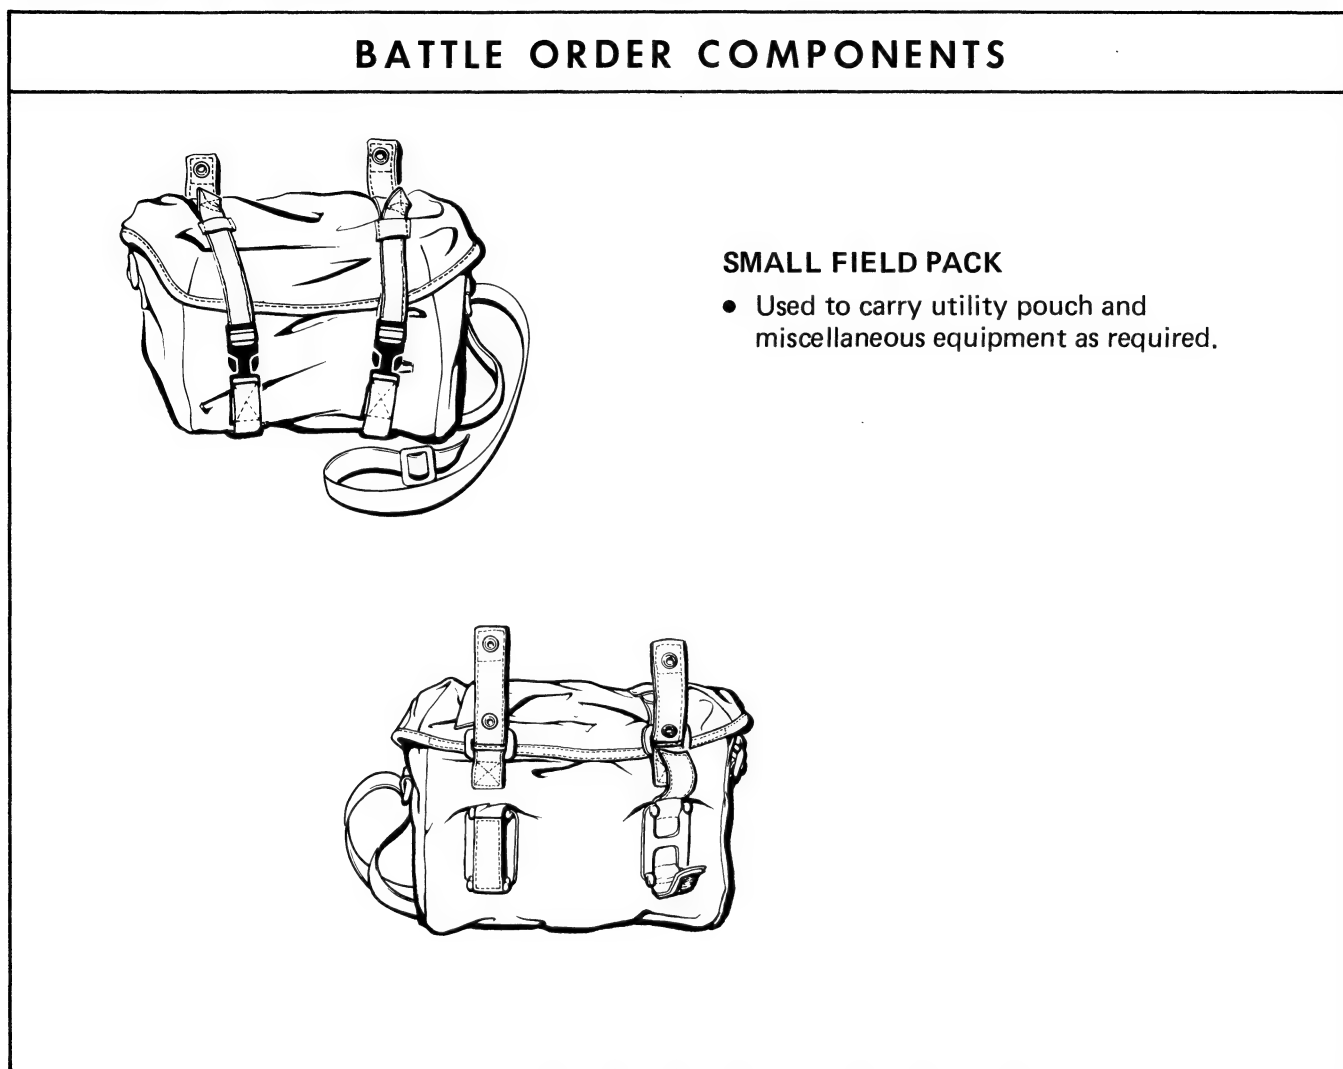

Figure 3-2 Battle Order Components
2. The Battle Order components are illustrated in Figure 3-2.